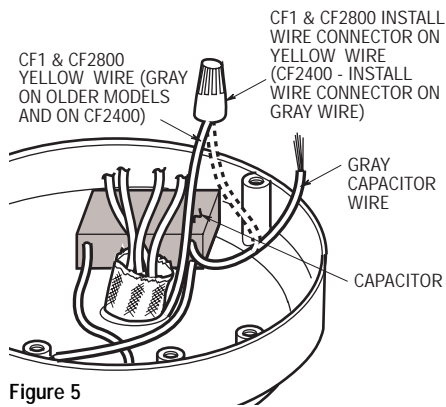

Figure 5
**6. For Ceiling Fan Models CF1 and CF2800 Only.** Locate the gray capacitor wire which is connected to the yellow wire (gray wire on older models) coming from the center of the motor. Remove the wire connector and separate the gray and yellow wires. Cap the yellow wire using a wire connector (supplied) (Figure 5).
**6A. For Ceiling Fan Model CF2400 Only.** Locate the gray capacitor wire which is connected to the gray wire coming from the center of the motor (yellow wire on older models). Remove the wire connector and separate the gray wires. Cap the gray wire using a wire connector (supplied) (Figure 5).